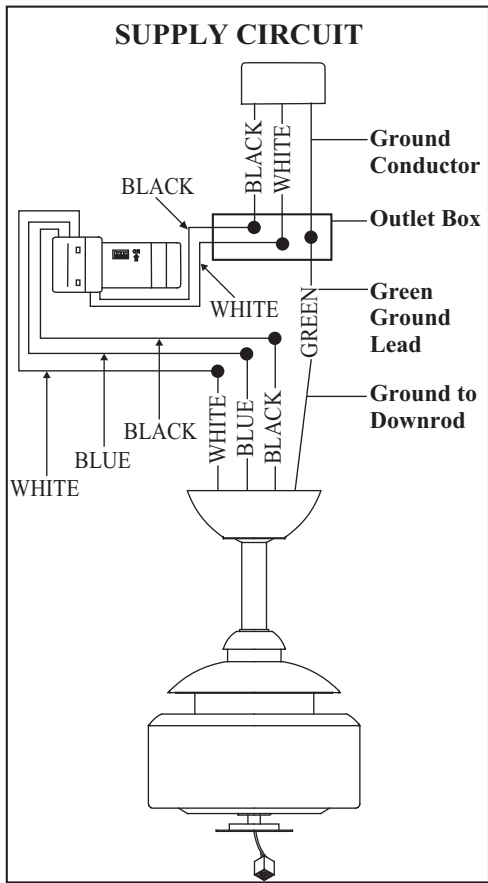

Figure 12
2. (Fig. 12) Motor to receiver electrical connections: Connect the black wire from the fan to black wire marked "TO MOTOR L". Connect the white wire from the fan to the white wire marked "TO MOTOR N" from the receiver. Connect the blue wire from the fan to the blue wire marked "For Light" from the receiver. Secure the wire connections with the plastic wire connecting nuts provided.
3. (Figure 12) Receiver to house supply wires electrical connections: Connect the black (hot) wire from the ceiling to the black wire marked "AC in L" from the receiver. Connect the white (neutral) wire from the ceiling to the white wire marked "AC in N" from the receiver. Secure the wire connections with the plastic wire connecting nuts provided.
4. (Figure 12) If your outlet box has a ground wire (green or bare copper) connect it to the fan ground wires; otherwise connect the hanging bracket ground wire to the mounting bracket. Secure the wire connection with a plastic wire connecting nut provided. After connecting the wires spread them apart so that the green and white wires are on one side of the outlet box and black and blue wires are on the other side. Carefully tuck the wire connections up into the outlet box.